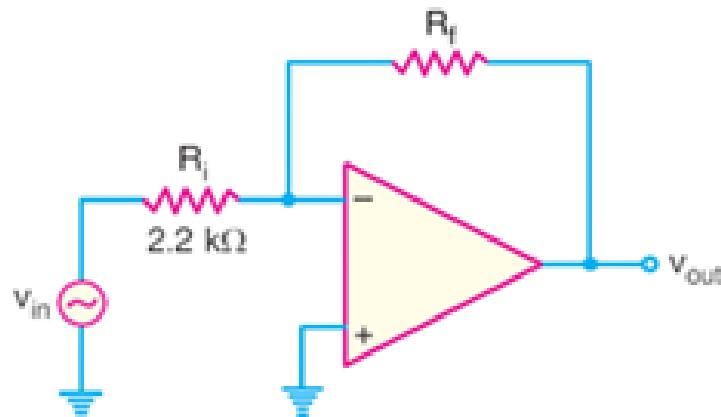

Figure 3.33: Problem 3
3. For the given op-amp configuration in the figure 3.33, determine the value of  $R_f$  required to produce a closed-loop voltage gain of  $-100$ .